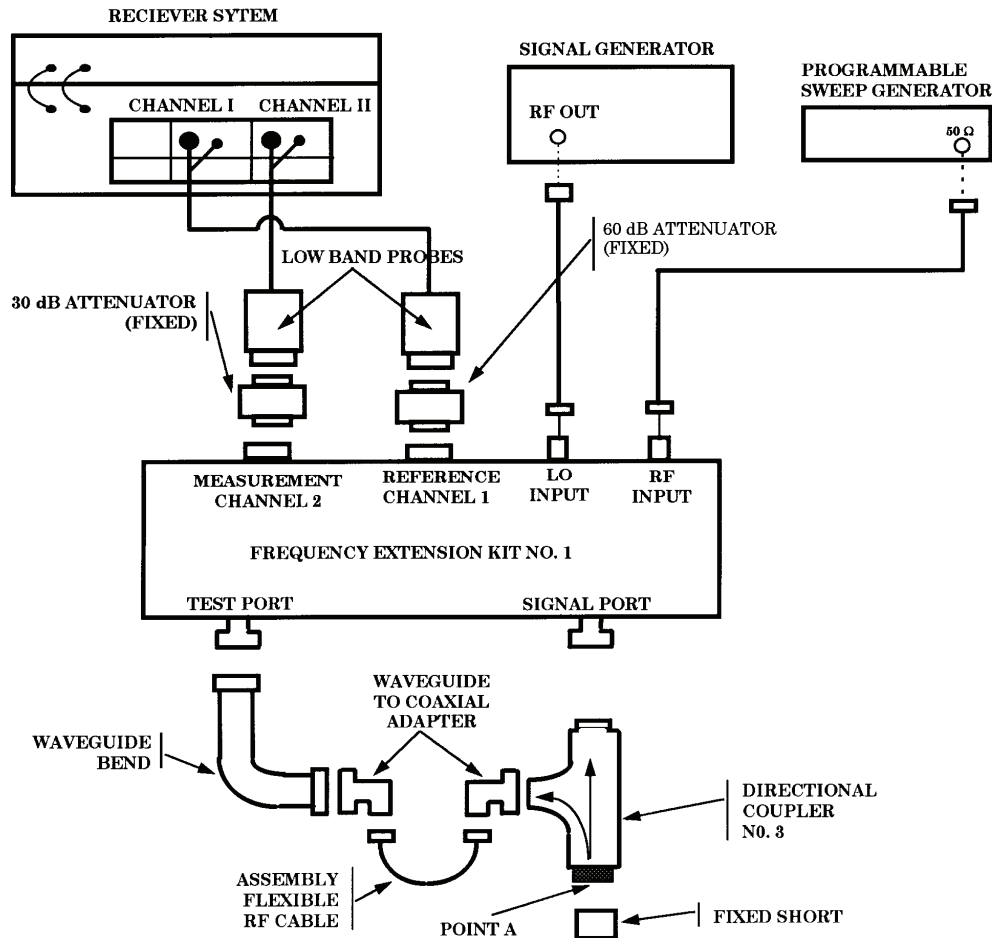
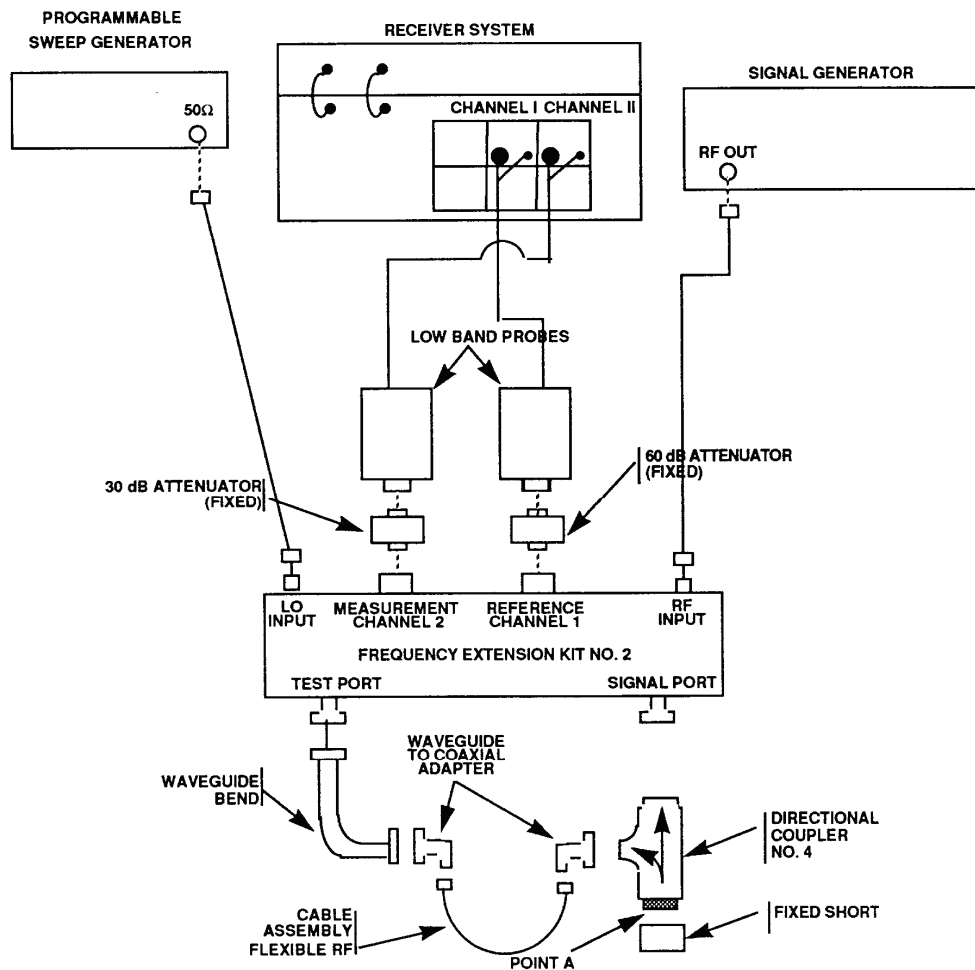

Figure 5. VSWR waveguide (18 to 26 GHz) - equipment setup.
Figure 6. VSWR waveguide (26.5 to 40 GHz).
- (33) Repeat technique of (29) through (32) above 2 more times and average values.
- (34) Determine VSWR using Appendix B. VSWR will be within the limits listed in Appendix A.
- (35) Repeat technique of (26) through (34) above for remaining cardinal test point frequencies determined in **7 c** above.
- (36) Connect equipment as shown in figure 5 and allow equipment to warm-up for 3 hours.
- (37) Adjust programmable sweep generator CW-F1 frequency controls to first cardinal test point frequency determined in **7c** above.
- (38) Adjust programmable sweep generator **LEVEL** output controls for +3 dBm.
- (39) Determine signal generator frequency (LO) required for the desired measurement by calculating the following equation:
(42) Disconnect fixed short from equipment setup in figure 5.
(43) Zero power meter No. 1 and connect TI to directional coupler No. 3, point A (fig. 5). Record receiver system readout indication as return loss.
(44) Remove TI from directional coupler and connect fixed short to directional coupler No. 3, point A (fig. 5).
(45) Repeat (41) through (44) two more times and average values recorded in (43) above. Determine VSWR using Appendix B. VSWR will be within the limits listed in Appendix A.
(46) Repeat technique of (37) through (45) above for remaining cardinal test point frequencies recorded in 7 c above.
(47) Connect equipment as shown in figure 6 and allow equipment to warm-up for 3 hours.
(48) Refer to cardinal test point frequencies determined in 7 c above. Record these values.
(54) Disconnect fixed short from directional coupler No. 4 (fig. 6).
(55) Zero power meter No. 1 and connect TI to directional coupler No. 4, point A (fig. 6). Record receiver system indication as return loss.
(56) Remove TI from directional coupler No. 4 and connect fixed short to directional coupler No. 4, point A (fig. 6).
(57) Repeat technique of (53) through (56) above two more times and average values recorded in (55) above. Determine VSWR using Appendix B. VSWR will be within the limits listed in Appendix A.
(58) Repeat (49) through (58) for remaining cardinal test point frequencies recorded in (48) above.